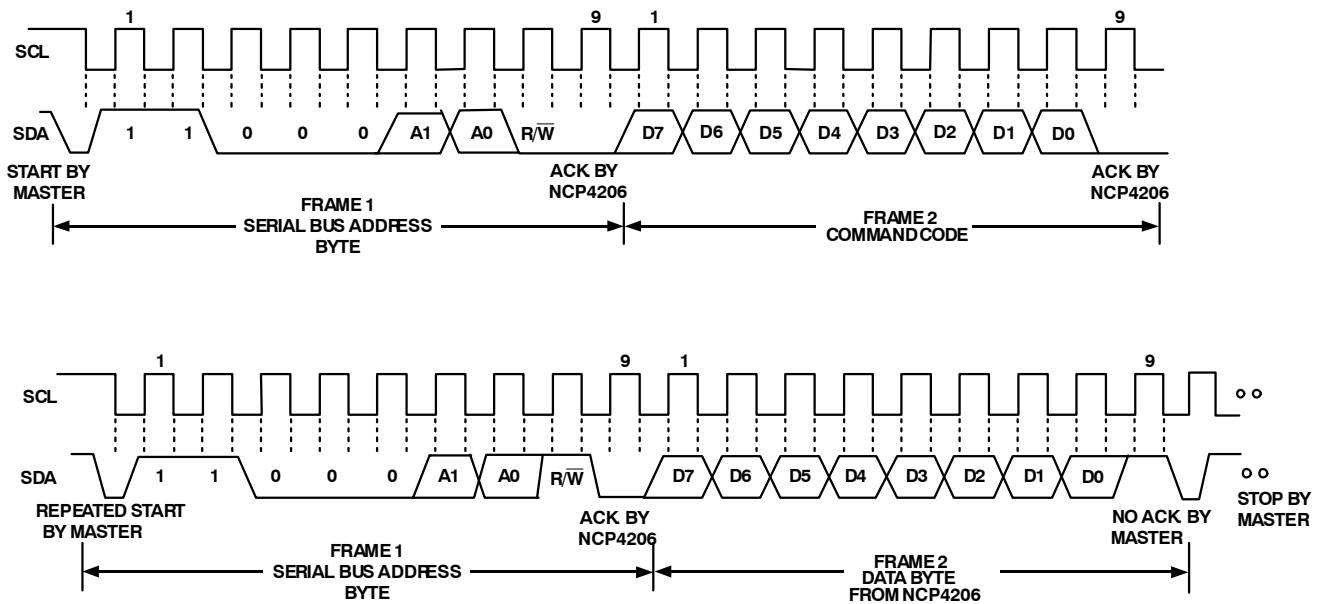

Figure 12. Read Byte
2. The read byte operation is shown in Figure 12.